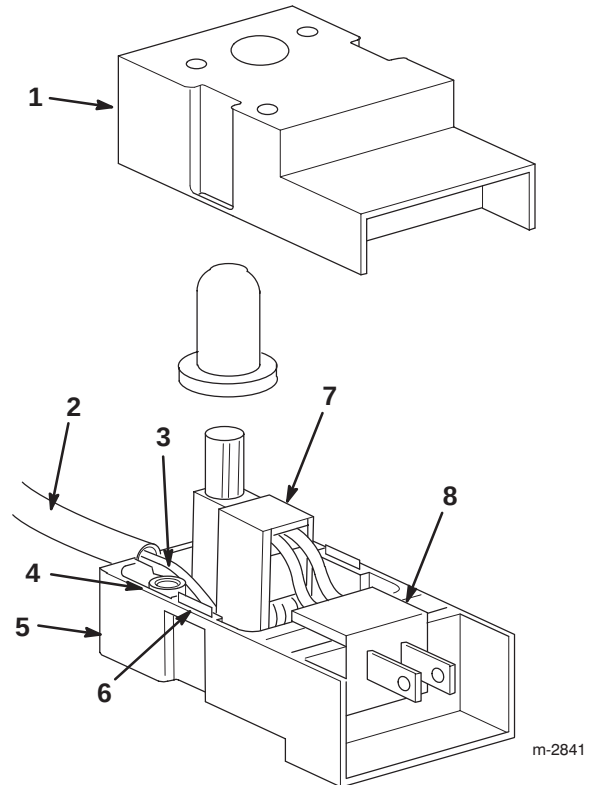

Figure 7
1. Push in the locking tabs and separate the switch housing cover from the switch housing base (Fig. 7).
2. Pull the switch and the AC connector out of the switch housing base (Fig. 7).
Note: Ensure that the slots in the AC connector fit into the matching cutout in the base (Fig. 7).
6. Route the starter wires between the switch and the inside of the screw boss, then out through the serrated cord opening in the switch housing base (Figs. 7 and 9).
7. Carefully push the starter wires down between the switch and the screw boss with a blunt object (Figs. 7 and 9).
9. Snap the switch housing cover back onto the switch housing base (Fig. 7).